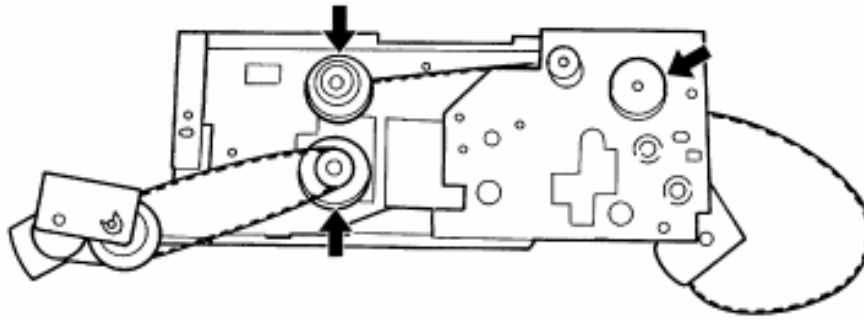

Figure 4
**\*16 Apply white grease to the main motor drive unit gears (shown arrow). See figure 4.**